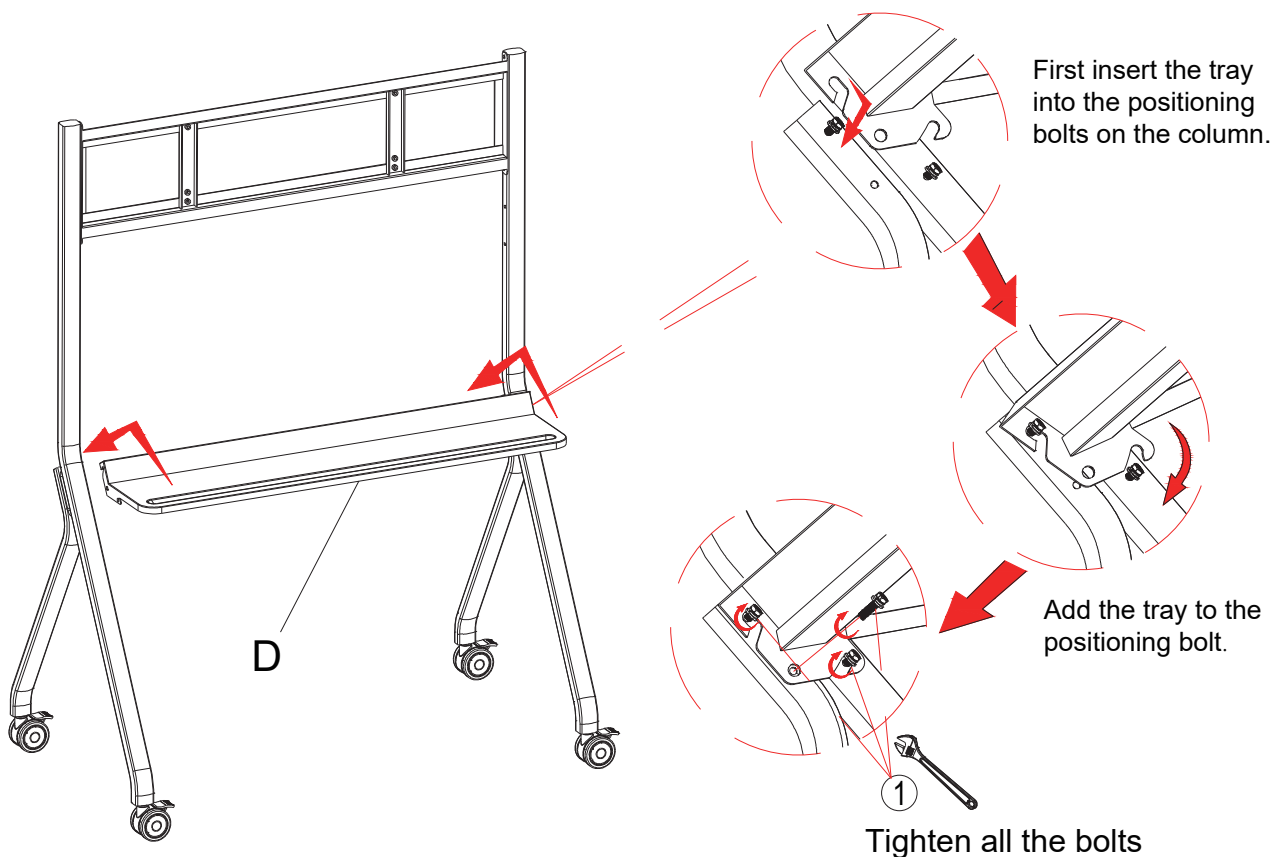

FIG 4
Step 4: Assemble the tray between the two columns.(Refer to figure 4)